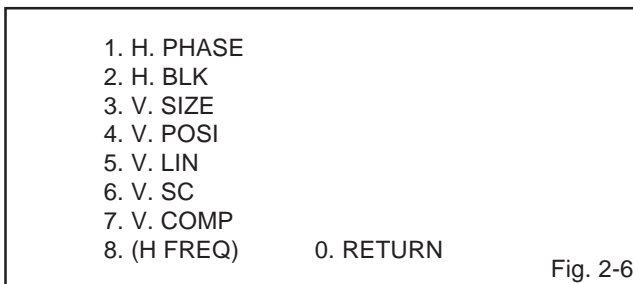

Fig. 2-6
3. Activate the adjustment mode display of **Fig. 1-1** and press the channel button **(1)** on the remote control. The **Fig. 2-6** appears on the display.
3. Activate the adjustment mode display of **Fig. 2-1** and press the channel button **(1)** on the remote control. The **Fig. 2-6** appears on the display.